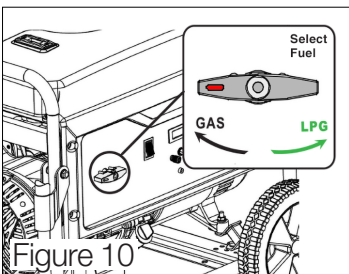

Figure 10
- Turn the fuel selector to “Gas” position (See fig. 10)
- Turn the fuel selector to “LPG” position (See fig 10)